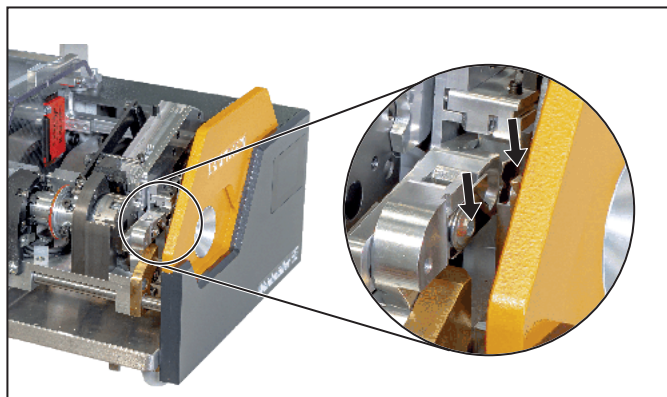

Figure 8.1 Exchanging the stripping blade
- Remove the mounting screws for the two pairs of blades, see Figure 8.1.